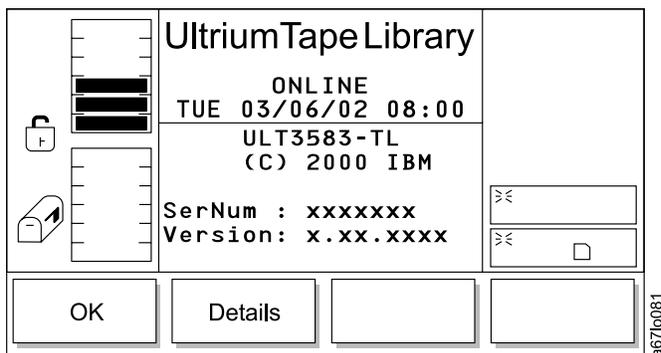

Figure 8-2. About Menu
- To view the level of firmware currently loaded on the library, select **Main Menu (initial screen)** —> **More** —> **About**. The About Menu displays (see Figure 8-2).